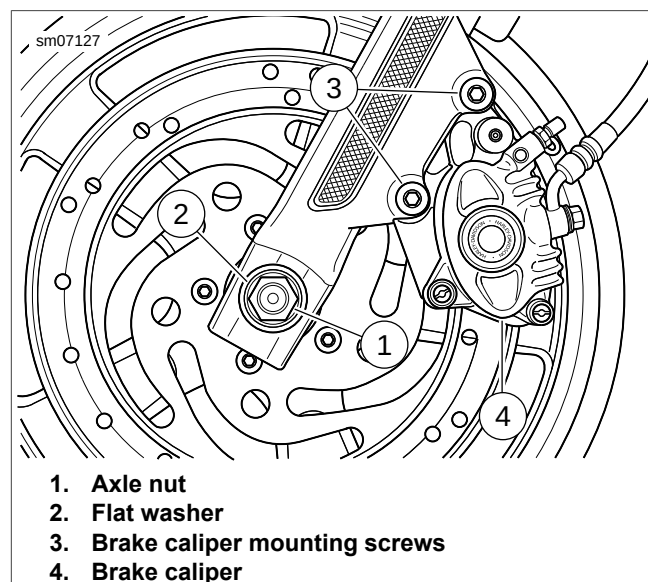
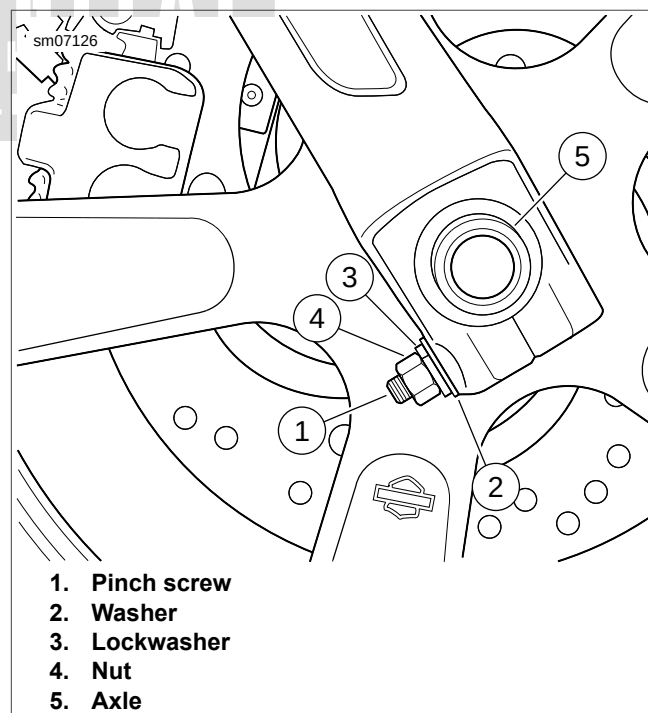

Figure 2-10. Left Side Front Wheel Mounting
Figure 2-11. Right Side Front Wheel Mounting
2. See Figure 2-10. Remove brake caliper mounting screws (3). Slide caliper (4) off brake disc and secure caliper out of the way.
4. Remove axle nut (1) and flat washer (2) from axle on left side of vehicle.
5. See Figure 2-11. On right side of vehicle, loosen nut (4) on pinch screw (1). Pull axle out of hub while supporting wheel.